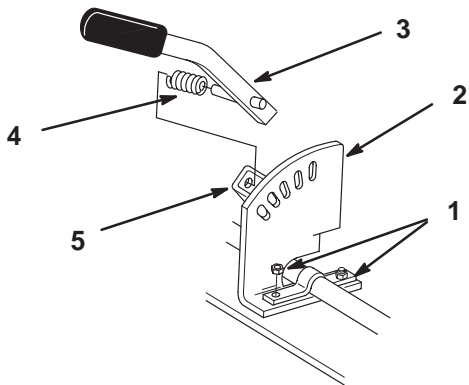

Figure 2
1. Loosen nuts securing quadrant to mower(Fig. 2).
2. Place spring onto long pin of lever. Compress spring and slide lever into square tube. Insert short pin of lever into a quadrant hole hold in position. Tighten quadrant nuts (Fig. 2).